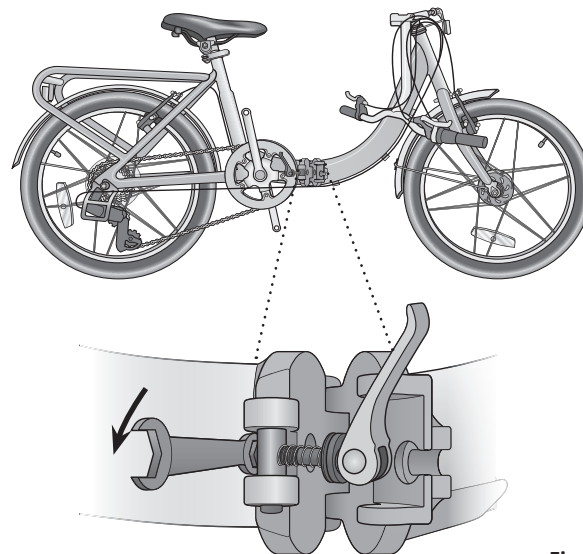

Figure 4.1
- ➊ Using a 10 mm wrench turn the frame latch bolt clockwise to tighten the latch, counter-clockwise to loosen the latch. Adjust in 1/16" turn increments until the latch is properly adjusted. **Figure 4.1**